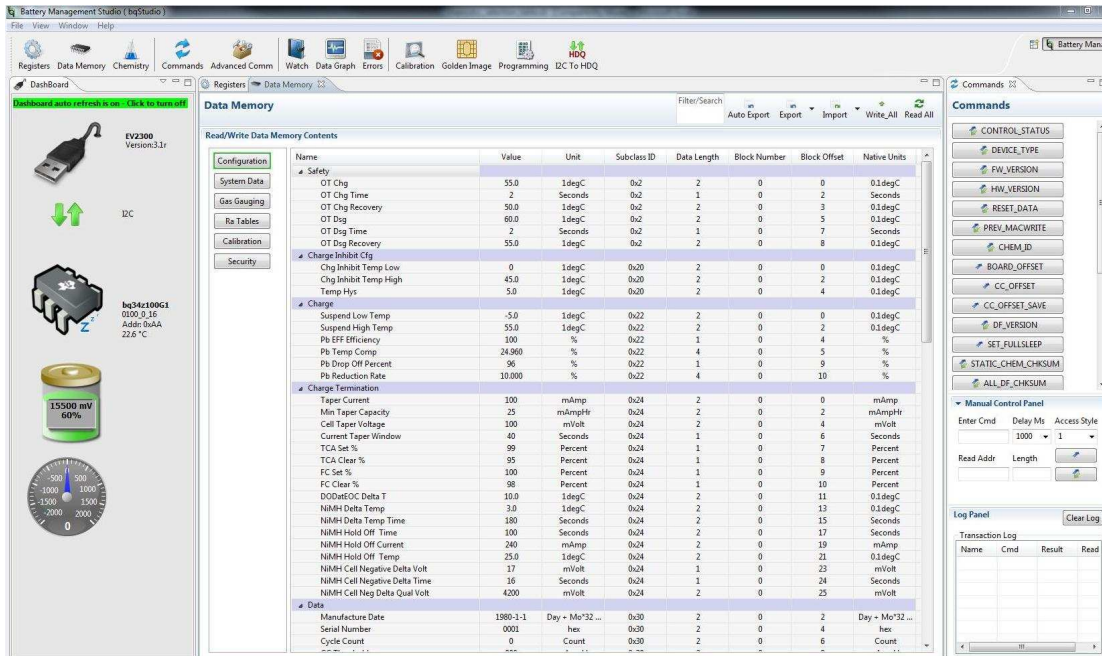

Figure 3. Data Memory Screen
**NOTE:** The correct setting of these options is essential to get the best performance. The settings can be configured using the *Data Memory* screen (see Figure 3)